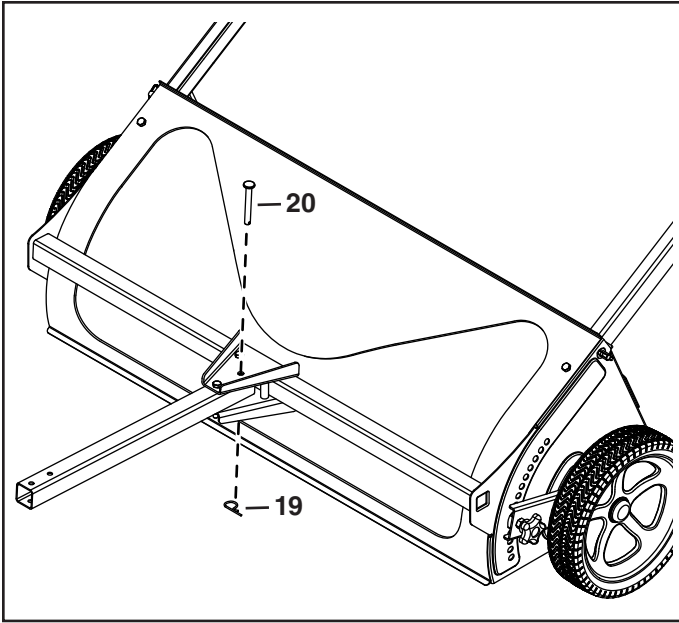

FIGURE 5
- Lock the drawbar into position by inserting a 3/8" x 3" hitch pin (20) into the center hole and securing it with a small hairpin cotter (19). See figure 5.